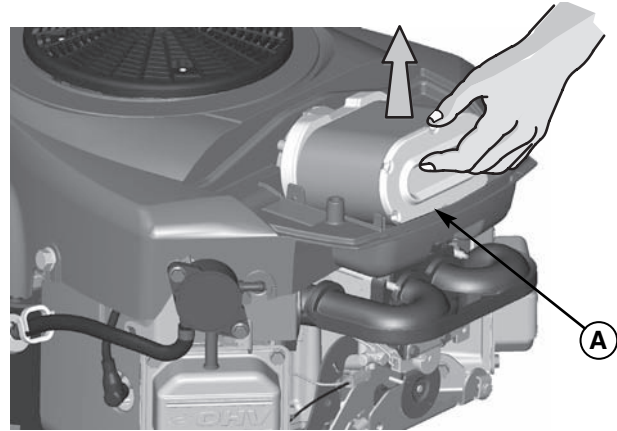

Figure 38. Air Filter Removal
2. Locate the air filter cartridge (A, Figure 38). Pull up on the front edge of the cartridge until it snaps out of place.